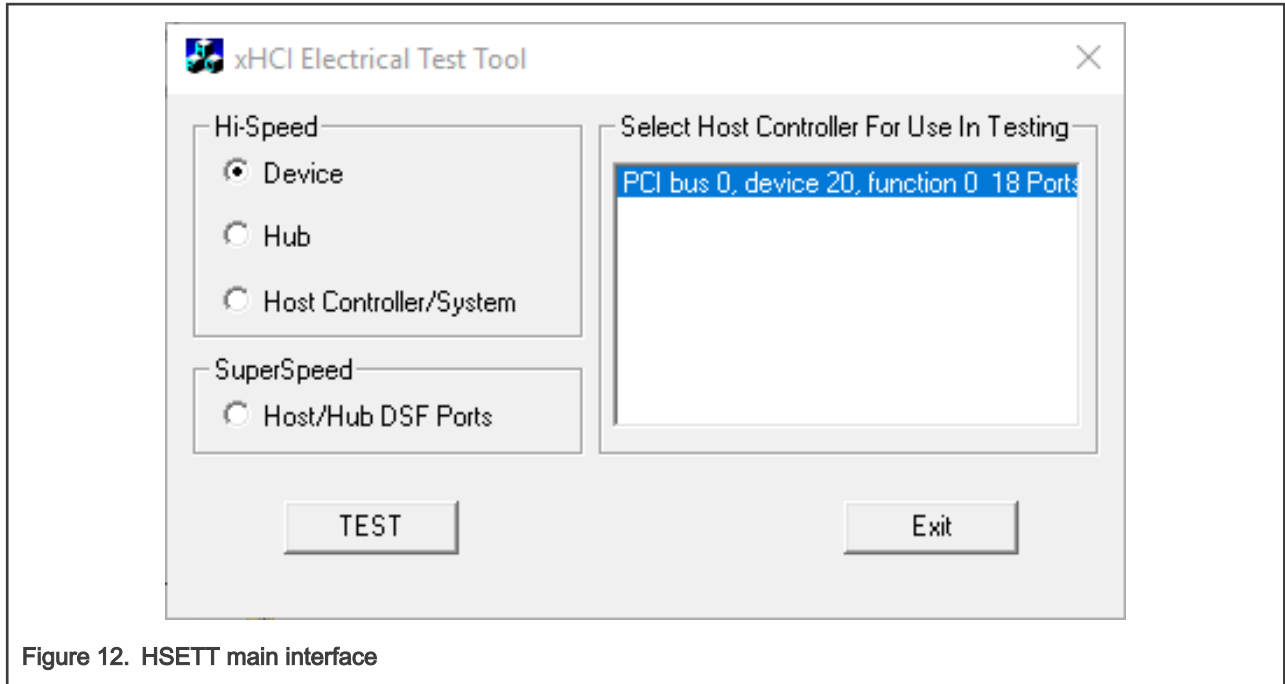

Figure 12. HSETT main interface
7. Power on the device and click the **Run Tests** button of the Automated Test software on the oscilloscope. As shown in Figure 12, invoke the HS Electrical Test Tool software on the Hi-Speed Electrical Test Bed computer, according to the type of PC's USB Controller. It is divided into EHCI HSETT and XHCI HSETT. Both can be downloaded from the USB-IF website. Select Device and click the **TEST** button to enter the **Device Test** menu. The DUT is enumerated with VID of the device shown together with the root port in which it is connected. For i.MX RT boards as DUT, the default VID is 0x1fc9 and PID is 0x0091.